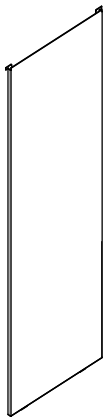
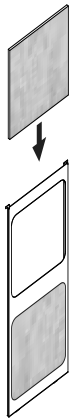
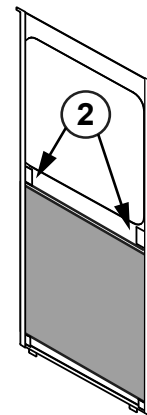

Figure 17.1
Figure 17.2
Figure 17.5
Your appliance ships with two different side options, one is a solid side panel (**Figure 17.1**) and tile side panel (**Figure 17.2**). There are two of each and no left or right side, these can be changed at anytime.
3. Stack non-combustible material tiles in tile frame as shown in **Figure 17.2** by sliding first tile in, bend tabs on back side **Figure 17.5**, then slide last tile in position so that it rests on tabs.